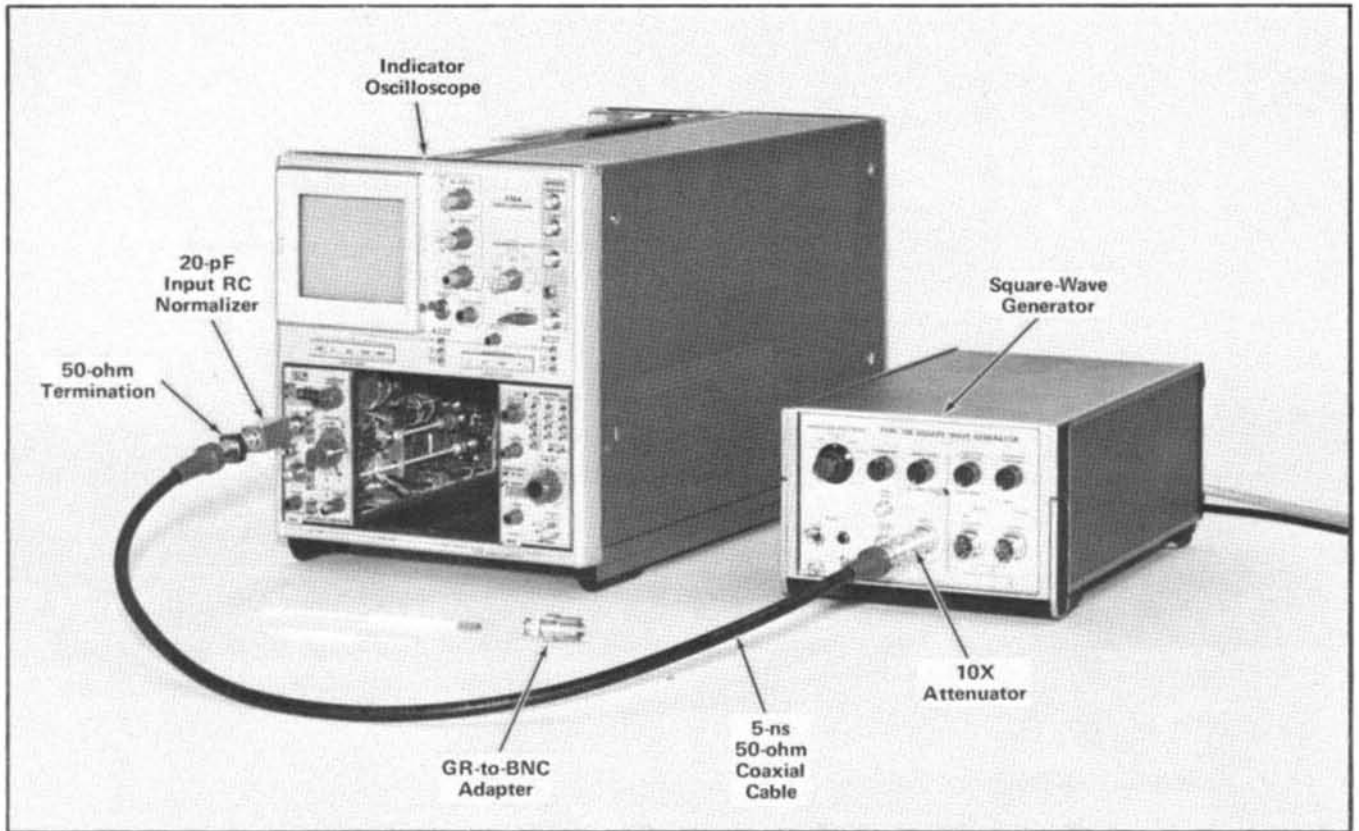

Fig. 5-16. Equipment required when performing steps 18 and 19.
18. Check/Adjust +INPUT Attenuator Compensation ❶
a. Test equipment setup, with connections made at completion of step 18c, is shown in Fig. 5-16.
c. Insert the 50-ohm termination in place of the GR-to-BNC adapter. Reconnect the 10× attenuator between the coaxial cable and Type 106 Output connector. This is the same setup as shown in Fig. 5-16 except the signal is applied to the -INPUT connector.